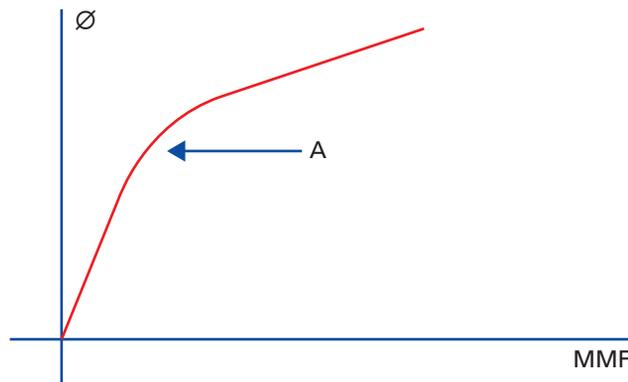

Figure 1.13 Magnetic characterisation curve of a DC motor
Refer to Figure 1.13.
2. Why is the curve of the magnetic characteristic of a DC motor given in Figure 1.13 non-linear?